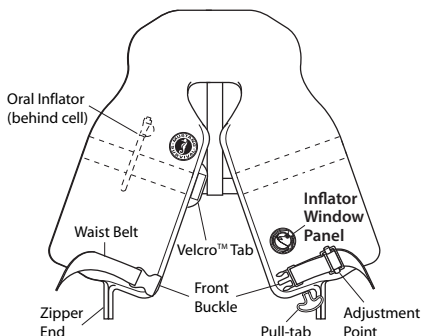
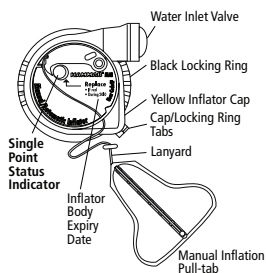
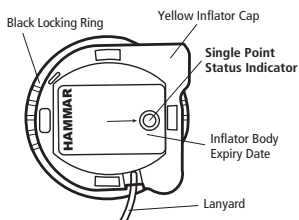

FIGURE 1 UNPACKED INFLATABLE PFD
FIGURE 2 MD3153 AND MD3154
FIGURE 2A MD3151
1. Look through the inflator window panel (Fig. 1). Ensure the indicator is green. If the single point status indicator (Fig. 2 for MD3153 and MD3154, or Fig. 2a for MD3151) is red, the mechanism has been fired or is incorrectly fitted (see Re-arming Your PFD, p. 9).
- ☐ Single point status indicator is green (Fig. 2 or 2a).
- ☐ Ensure both zipper stops are in place under Velcro™ tab (Fig. 1).
3. Examine the single point status indicator (Fig. 2 or 2a on p. 3). If the indicator is red, the mechanism has been fired and the inflator requires service (see Re-arming Your PFD, p. 9).